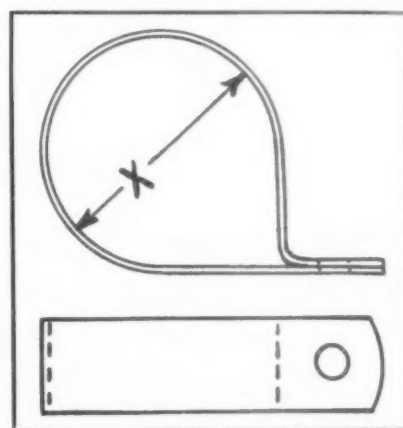
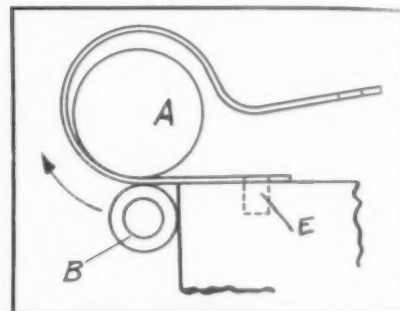
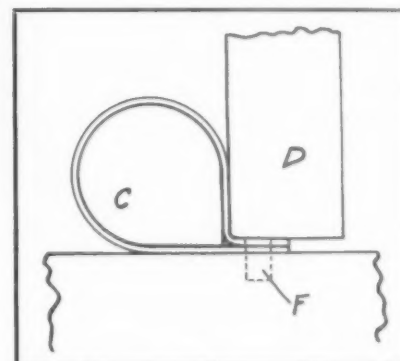

Figure 1
Figure 2
Figure 3
THE clip shown in Figure 1 is made of hard rolled wire, the requirements being that the diameter X be held to close limits, and that the ends lay together with a definite amount of tension. The greatest difficulty lay in overcoming the effects of spring-back, so that the ends would snap together. The following method,
After the blanks are cut and pierced, one end is located on the pin E, which is carried in a fixed block on a hand fixture, as in Figure 2. A loop is then formed by the roller B rolling the material around the pin A. The spring-back of the material produces the shape shown in Figure 2. The diameter of the pin A, which must be determined by experiment, is such that the inside diameter of the clip as formed by this operation will be slightly less than the diameter X , in Figure 1.
a power press, as shown in Figure 3. The block C, which is fixed in position, is formed to the exact shape and dimensions as the inside of the clip shown in Figure 1. As the clip at this point is slightly smaller on the inside than the block C, it must be sprung open slightly to be located on block C, thus providing the tension which is one of the requirements.
C. Pin F extends out of the block slightly less than the thickness of the material. As the punch D descends, the clip is formed as in Figure 3. As this operation may be classed as an ironing rather than a bending operation, there is practically no spring-back of the material. When the clip is removed from block C, it retains its shape and the tension it acquired by being sprung on block C.
You can see by referring to Fig. 1 that a chip produced by a blade of the conventional type will be flat. The cutting action of the blade causes this flat chip to expand and jam against the walls of the cut, creating excessive chip friction which results in rapid breakdowns of the blade.
A chip issuing from the Luers Blade (Fig. 2) assumes a curved shape conforming with the hollow-ground top of the blade. In this curved form the chip is free to collapse into the concave top of the blade and cause the least amount of contact with the restricting sidewalls. Excessive friction is eliminated.
provided by the distinctive T-shaped design of the blade (Fig. 3), too, serves to reduce friction. Since this side clearance and the hollow-ground top both extend the full length of the blade, it is apparent that neither of these surfaces require regrounding. They both remain unchanged. That means that the task of sharpening is very simple—so simple, in fact, that even an unskilled operator can do it. Only the front face, or cutting edge, is ever sharpened. A special gauge permits even an unskilled operator to restore the blade exactly to its former position.